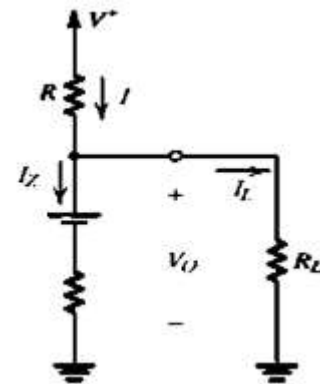

Figure 2
5. In figure 2, a 7.5-V zener regulator circuit using a 7.5-V zener specified at 12 mA. The zener has $Z_z = 30 \Omega$ and a knee current of 0.5 mA. The regulator operates from a 10-V supply and has a 1.2-k Ω load. Find V_{zk} , and what is the value of R you have chosen when the total current I is 10 mA?